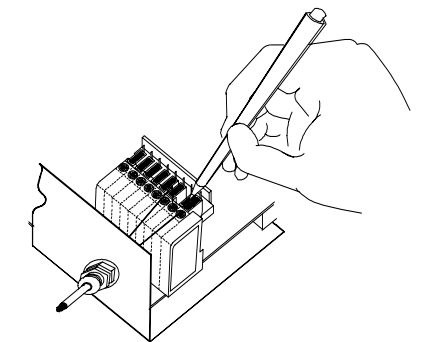

Figure 6 - System Cable Connections
- Using a device such as a screwdriver, push down on the lever directly next to the clamp (see Figure 6).